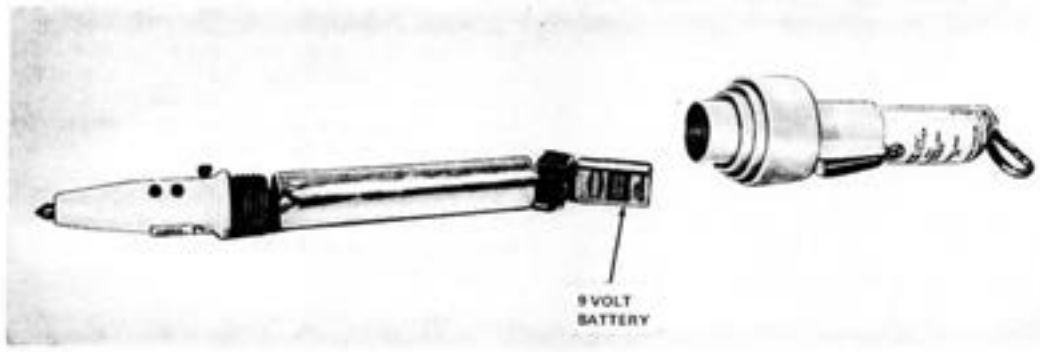

Fig. 10—Battery Location
9.05 When replacing batteries (Fig. 10), always use a 9V alkaline such as Eveready* 522. Other manufacturers' batteries may be physically larger and could damage the test set if used. To prevent damage to internal components, exercise care when replacing the battery.